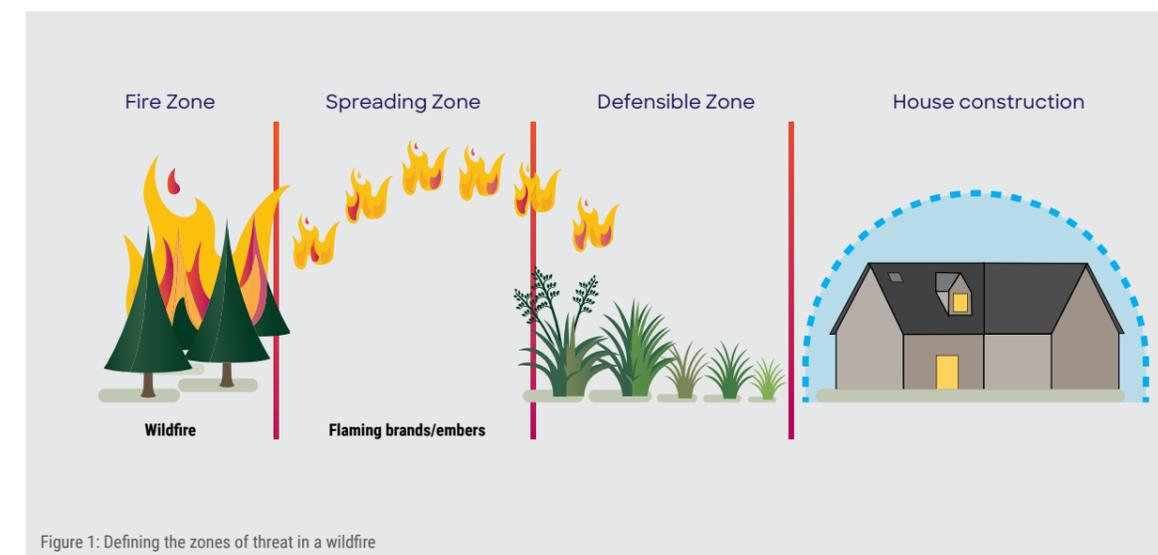

Figure 1: Defining the zones of threat in a wildfire
Figure 1 uses zones to illustrate the generalised understanding of an approaching wildfire and the threat it poses to igniting a house. Each of the zones have potential mitigation strategies. This guide focuses solely on the house construction zone – the building elements of the house itself.
- The roof is a large surface where combustible debris can accumulate. A wildfire can be some distance away but still produce embers which can land on the roof and ignite debris, potentially putting the building at risk. You should regularly clean combustible debris off the roof, especially the areas around roof features such as skylights and solar panels that could be an entry or accumulation point for windblown embers. Remove tree branches that overhang the roof and remove any dead vegetation, including branches, within the defensible space (see figure 1).